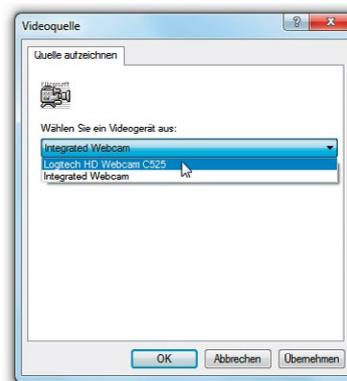

Figure 3: Camera selection window
12. On a system with multiple cameras, the window Figure 3 will pop up. Select the camera you want to use.